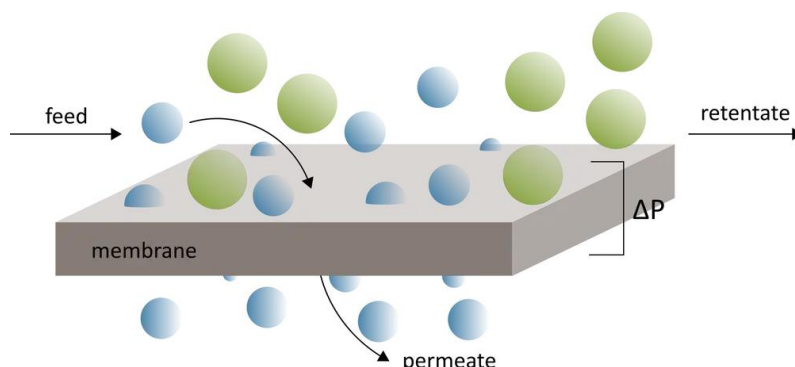

Figure.1: The separation process by membrane is an example of permeability
3. **Permeability:** The term permeability describes a material's capacity to permit fluids to pass through it. Depending on the application, a high permeability might be desirable, but for some applications, a low permeability may be necessary to prevent leaks or contamination. The permeability is important separations and filtration processes. The separation process of a membrane is shown in **Figure.1**.